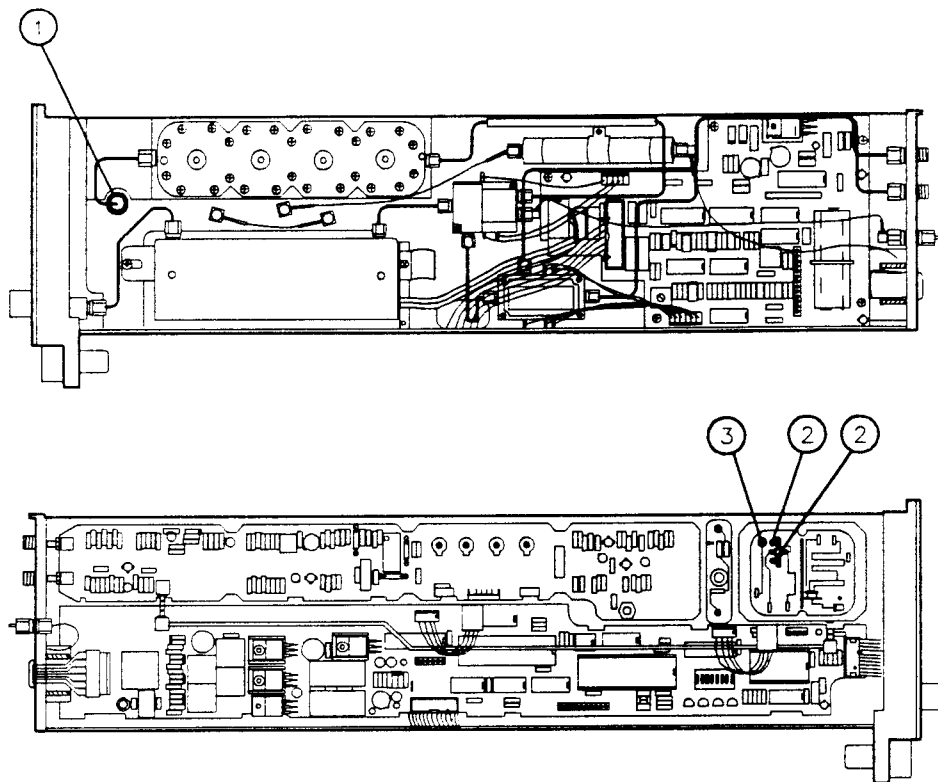

Figure 6-12. A13 VCO/Sampler Replacement
4. Disconnect the W2 semirigid cable located on the right side of the RF section (1). See Figure 6-12.
5. Remove the SMA connector nut and lock washer from the A13 VCO/Sampler board assembly connector (2).
6. Remove the two allen screws and flat washers (3) from the board assembly.
7. Remove the probe screw (4) and lift the A13 VCO/Sampler board assembly out of the casting.